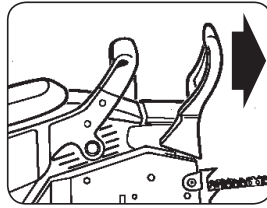

Fig. 5B
2. The chain brake is engaged (chain is stopped) when brake lever is in forward position. You should not be able to move chain (Fig. 5B).